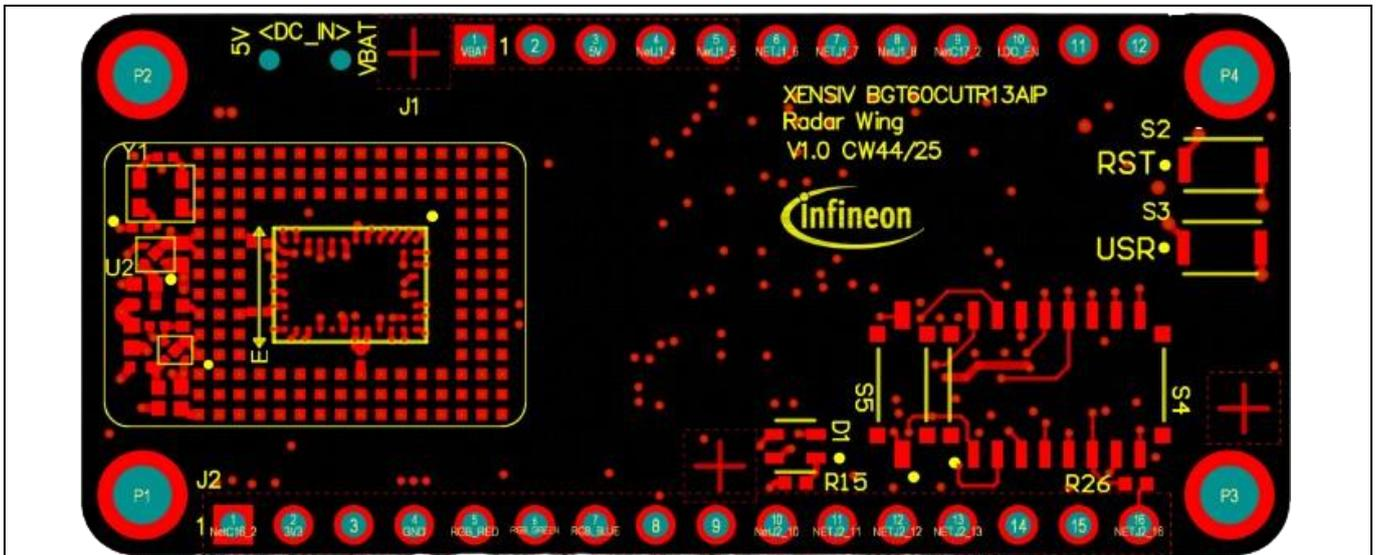

Figure 24 PCB layout of XENSIV™ BGT60CUTR13AIP radar Wing board
The size of the XENSIV™ BGT60CUTR13AIP radar Wing board is 50.9 mm (L) x 23 mm (W), as shown in Figure 24.